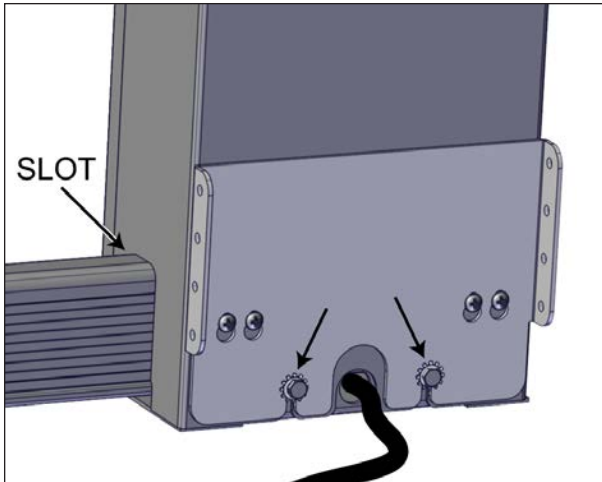

FIGURE 77: SLEEVE INSTALLATION
When sliding the sleeves over the jacks, ensure the slot at the bottom of the outer sleeve is going to slide over the U-frame that covers the drive shaft. **There are right and left sleeve models**, see Figure 77.
20. Tighten the 1/4" hexagonal screws at the bottom of all the sleeve base using a 7/16" (11 mm) socket wrench. Ensure that the tooth lockwasher is outside of the outer sleeve. This will ensure the sleeve is held correctly, see Figure 77.